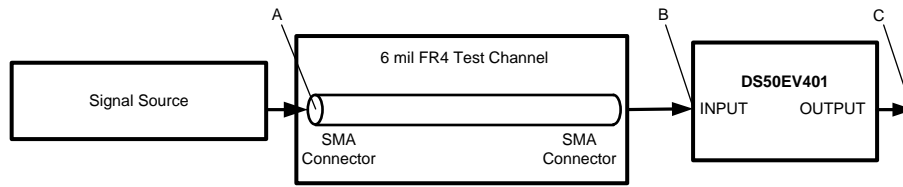

Figure 2. Test Setup Diagram
| V _{TX} | Input Voltage Swing (Launch Amplitude) | Measured at point A, AC or DC coupled, Figure 2 | 400 | 1000 | 1600 | mV _{P-P} |
| V _{IN-S} | Input Voltage Sensitivity | AC-Coupled or DC-Coupled Required Differential Envelope measured at point B, Figure 2 , ⁽⁴⁾ , See FR4 / BACKPLANE Typical Performance Eye Diagrams , | | 170 | | mV _{P-P} |
(4) V_{IN-S} is a measurement of the input differential envelope, see FR4 / BACKPLANE Typical Performance Eye Diagrams. The device does not require an open eye.
(5) Specification is ensured by characterization at optimal MODE setting and is not tested in production.
(6) Measured with clock-like {11111 00000} pattern.
(7) Specification is ensured by characterization at optimal MODE setting and is not tested in production.
(8) Deterministic jitter is measured at the differential outputs (point C of Figure 2), minus the deterministic jitter before the test channel (point A of Figure 2). Random jitter is removed through the use of averaging or similar means.
(9) Random jitter contributed by the equalizer is defined as sqrt(J_{OUT}² – J_{IN}²). J_{OUT} is the random jitter at equalizer outputs in ps-rms, see point C of Figure 2; J_{IN} is the random jitter at the input of the equalizer in ps-rms, see point B of Figure 2.